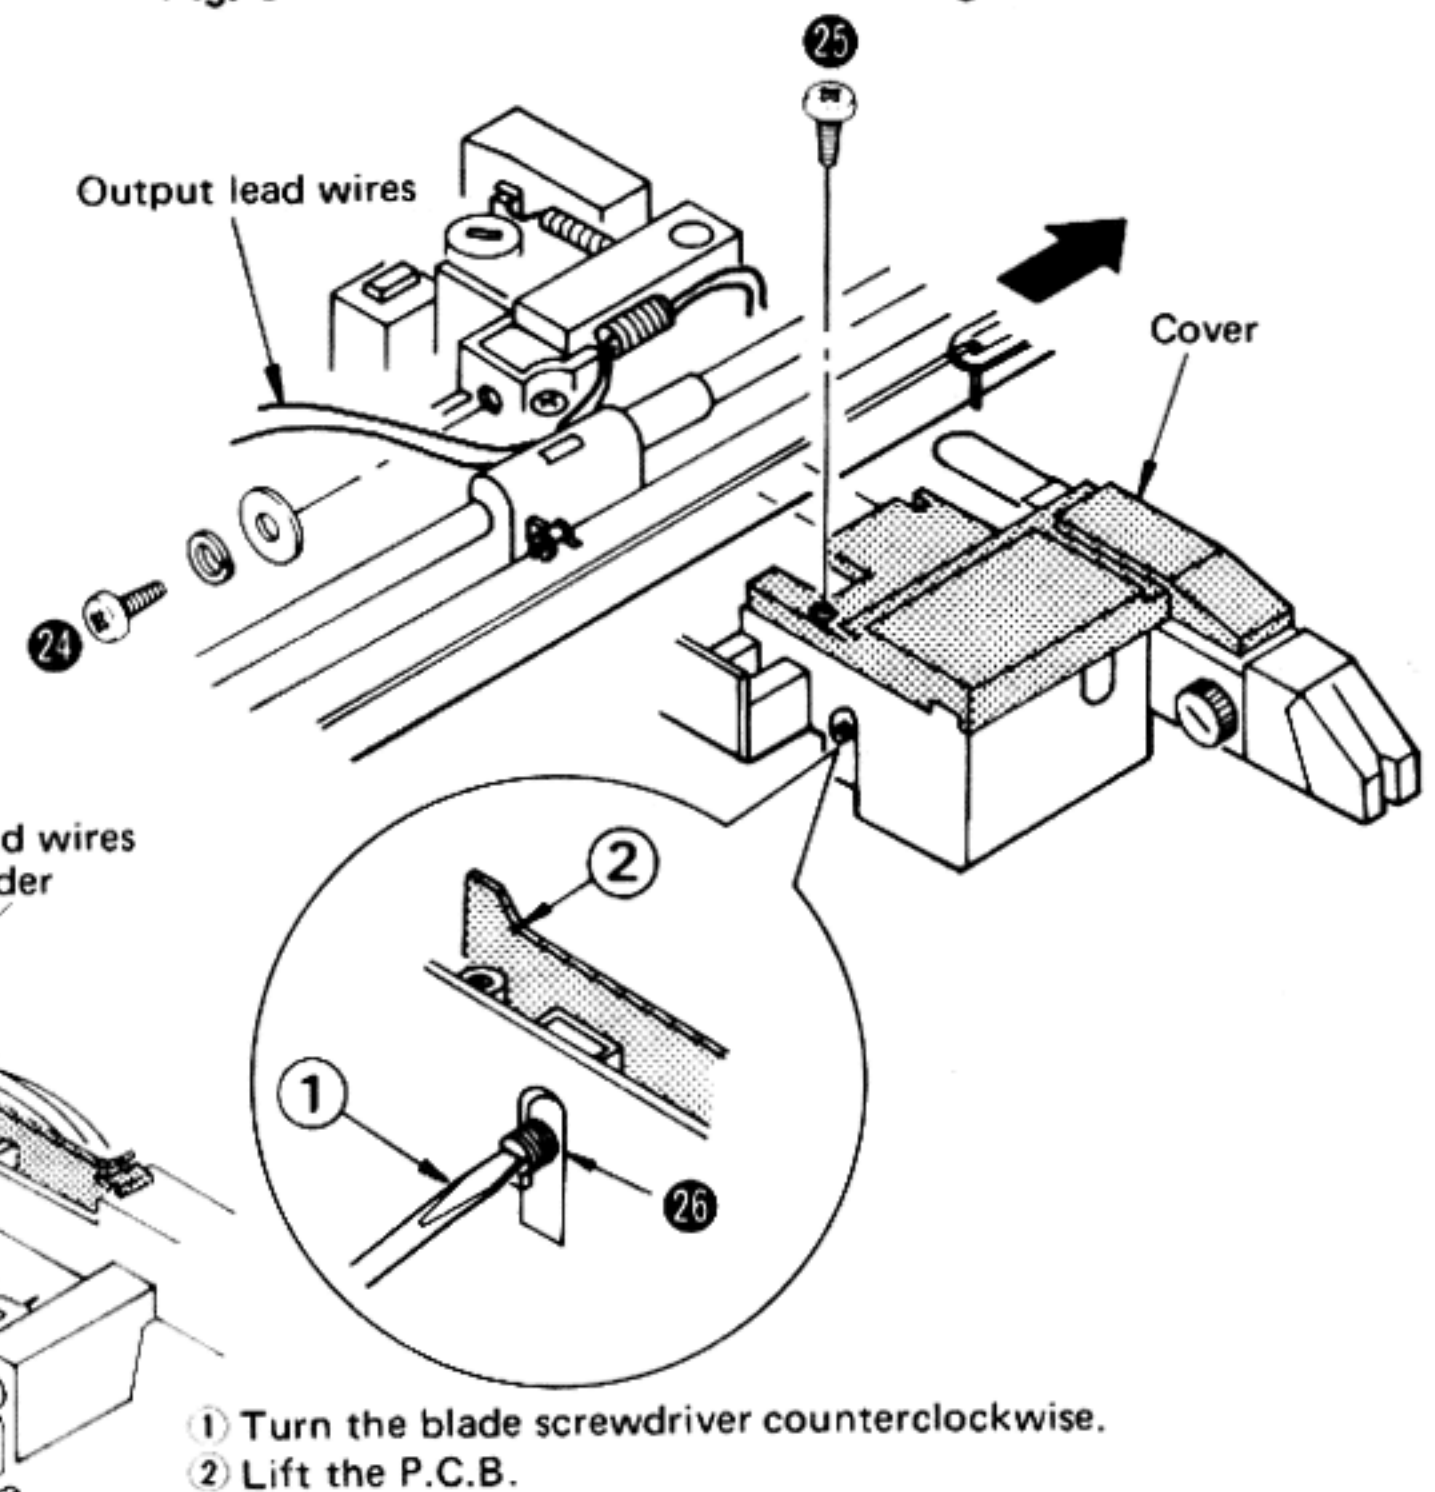

Fig. 12
6. Remove the tonearm setscrew (Fig. 12 : ㉔), then the tonearm can be removed.
2. Remove the indicator cover setscrew (Fig. 12 : 25), then the indicator cover can be removed.
3. Remove the adjustment screw (Fig. 12 : 26), then the offset angle detection circuit board can be removed.